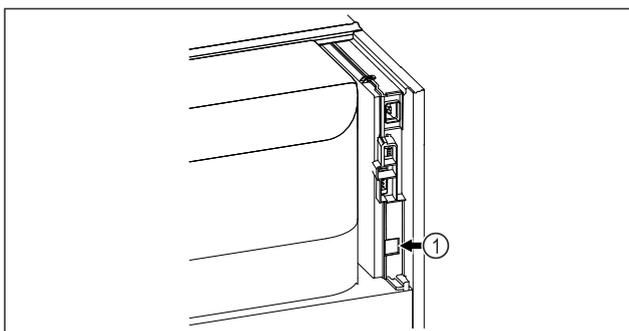

Fig. 184
- SmartModule Fig. 184 (1) is in use.